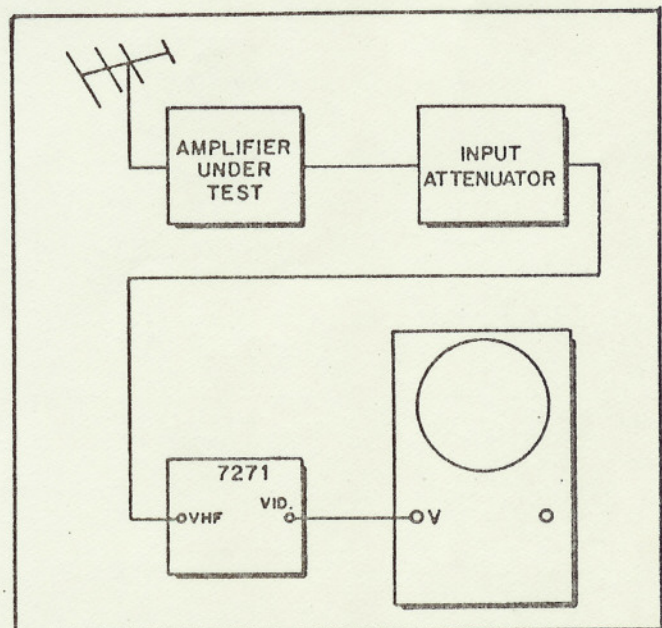

Fig. 3-7 Setup for Measuring Sync Clipping
1. Connect the equipment as diagrammed in Fig. 3-7.